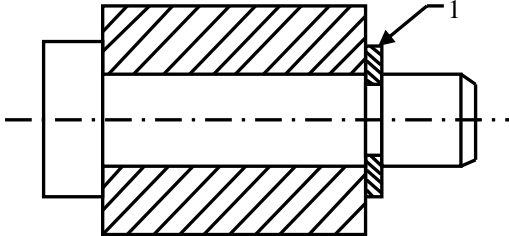

Figure 12
39. Name the element 1 on the figure 12